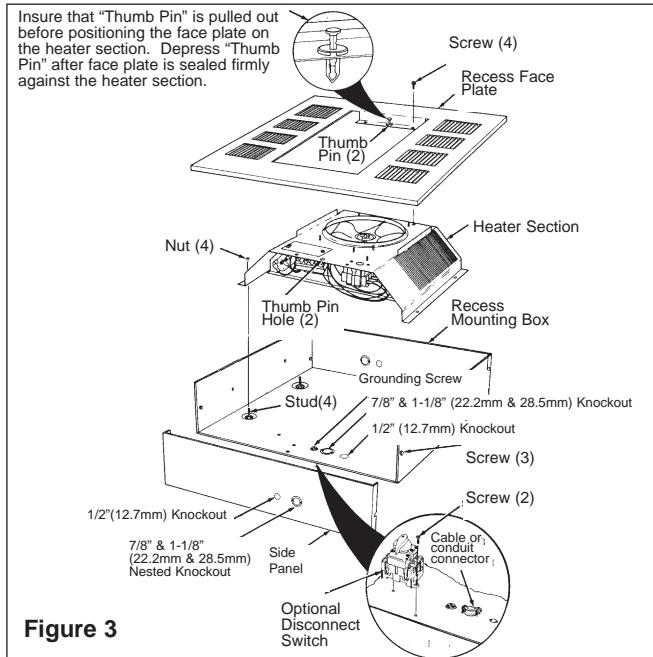

Figure 3
1. Remove the recess mounting box (Figure 3) from the carton containing the Recess Mounting Enclosure, Type REA.
2. Remove three screws and the side of the recess mounting box to allow for easier wiring (Figure 3).
3. Remove one of the knockouts and install a cable or conduit connector (Figure 3).
4. Install the optional disconnect switch (if required as shown in Figure 3).
8. Position the heater section over the studs in the recess mounting box (Figure 3).
- heater section to the recess mounting box (Figure 3).
10. Remove the Recess Face Plate (Figure 3) from the carton containing the Recess Mounting Enclosure, Type REA.
NOTE: Insure that the "thumb pin" in each end of the discharge grille opening is pulled outward to allow the body of the thumb pins to fit into the holes in the heater section. (Figure 3.)
13. Install and securely tighten four screws (supplied) to secure the recess face plate to the heater section (Figure 3).